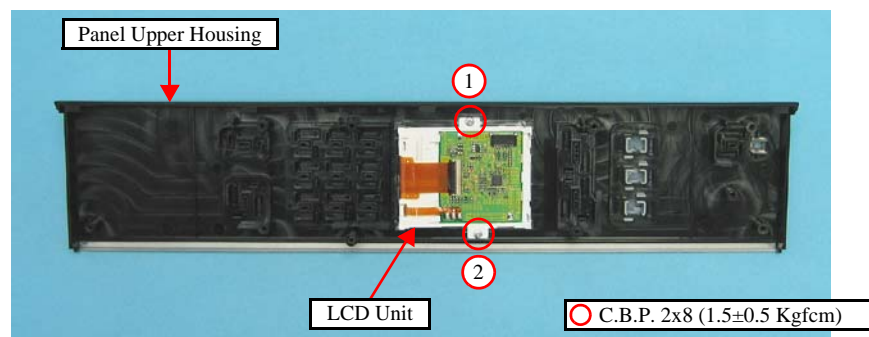

Figure 4-46. Removing the Panel Board (5)
- Tighten the screws in the order given in Fig. 4-46.